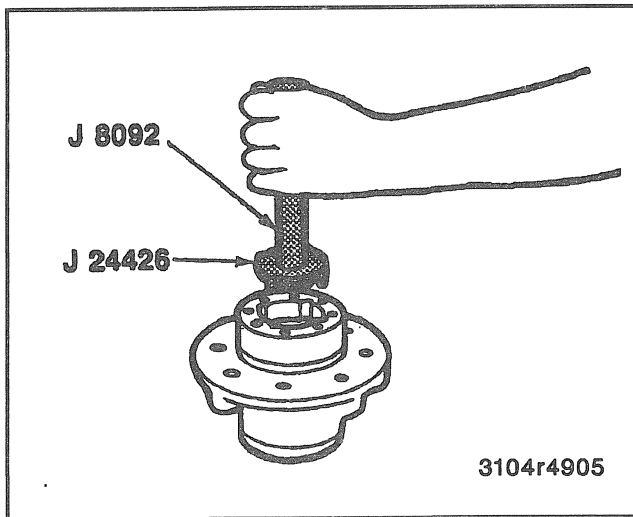

Figure 31—Seating Outer Bearing Cup onto Retaining Ring
- Drive the cup back onto the retaining ring using J 24426 (Figure 31).